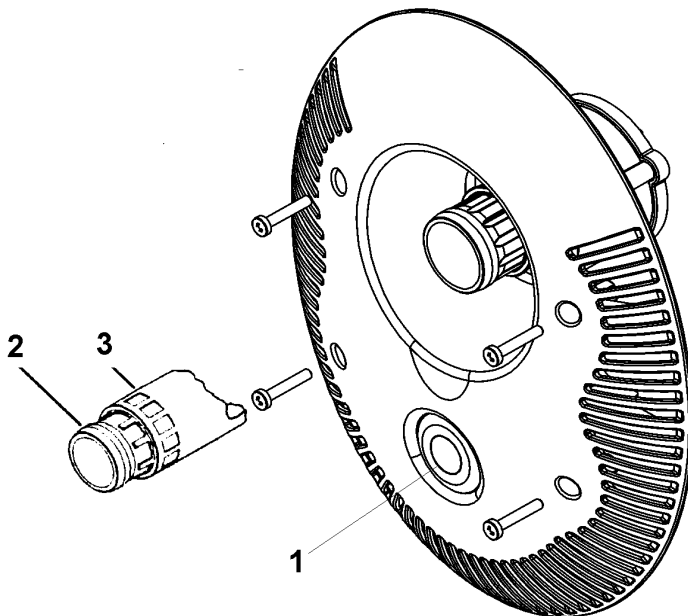

Fig. 7
The counterflow is started from the pool by pressing of pneumatic switch (pos. 1, Fig. 7).
The started counterflow supplies: only water flow, or flow of water with air. It depends on adjustment of front nozzles (see Fig. 7). Only water flow: Maximum water flow is achieved by turning of inner nozzle (pos. 2, Fig. 7) CCW. The water flow is limited by turning the nozzle CW. Flow of water with air: Turn the outer nozzle to adjust/limit the air flow (pos. 3, Fig. 7).